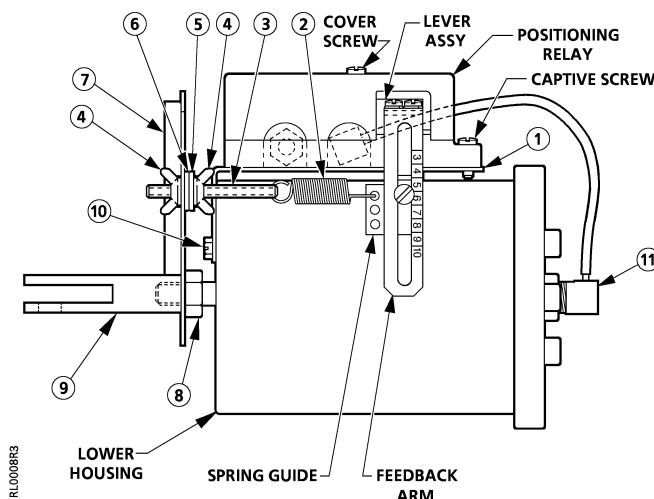

Figure 1. Positioning Relay 147-104 Mounting Kit on the No. 3 Damper Actuator.
1. Attach the mounting bracket (1) to the lower housing of the actuator with screws (10).
4. Thread the hex nut (8) onto the actuator shaft within 1/4-inch (6 mm) from the lower housing or the actuator. Put spring arm (7) against the nut and thread the clevis (9) onto the shaft against the spring arm as shown in *Figure 1*.
9. Attach the connector (11) to the actuator. See *Figure 1*.